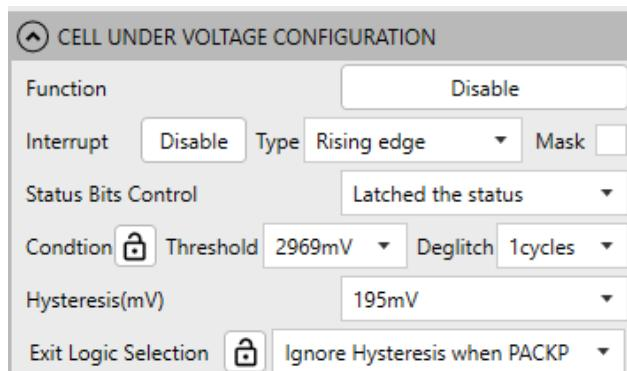

Figure 26: Cell Under-Voltage Configurations
22. Configure the cell under-voltage (UV) parameters (see Figure 26).